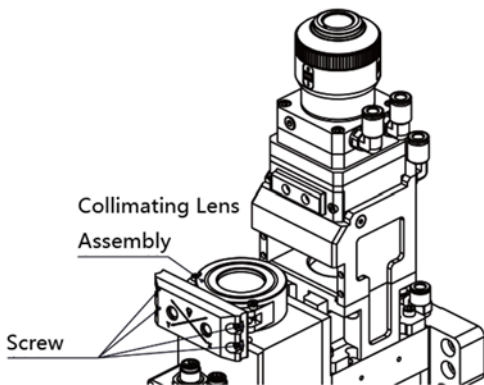

Figure 5.5 – Remove Collimating Lens Assembly
- Undo the screws on the collimating lens assembly with 3mm inner hexagon spanner (as shown in figure 5.5);